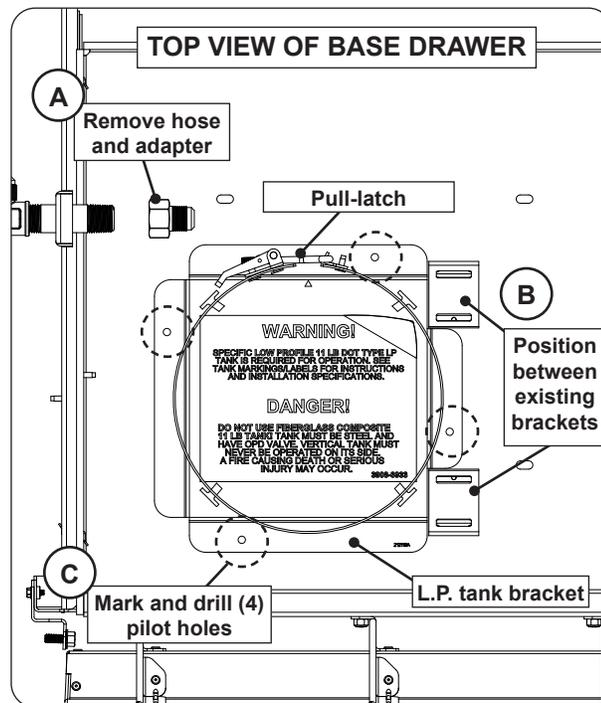

Fig. 1-1 Prep for installation
3. Detach the regulator hose and straight flare adapter located inside the fire unit. See Fig. 1-1, A. Set the regulator hose aside for later reinstallation. Discard the straight flare adapter.
4. Position the L.P. tank bracket (supplied) between the two pre-installed brackets, with the pull-latch facing away from the drawer opening as shown in Fig. 1-1, B. Use the bracket as a guide to mark four pilot holes.
5. Remove the bracket and drill the pilot holes using a 1/4" drill bit (see Fig. 1-1, C).